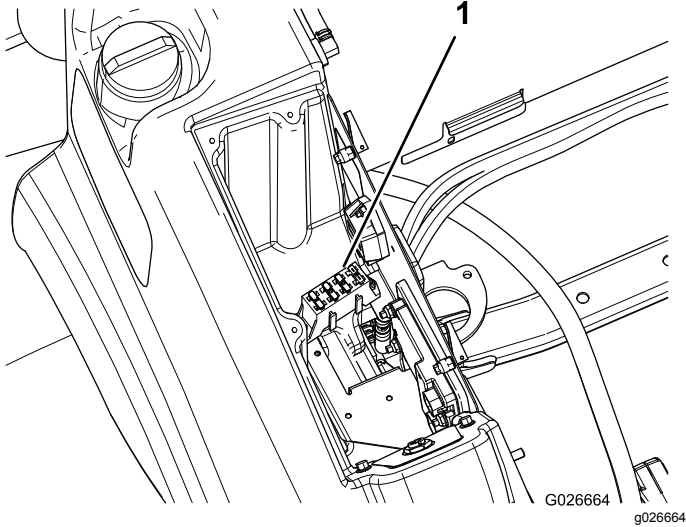

Figure 20
2. Locate the fuse block (Figure 20).